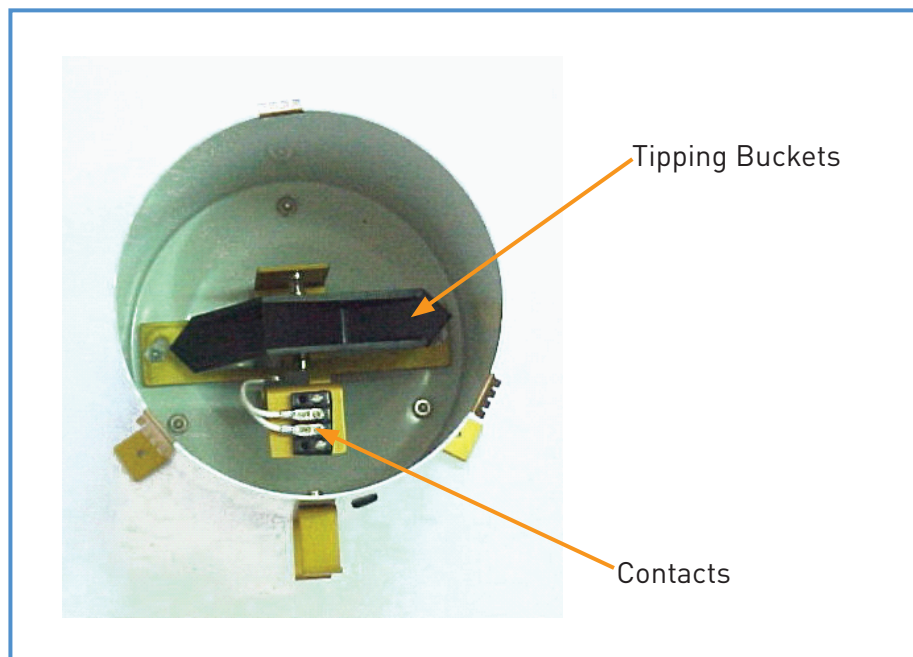

Figure 7: Top View of Tipping Bucket Raingage with Free Contacts.
- Remove any external cables leading to the contacts in the raingage; the location of these contacts is indicated in figure 7.